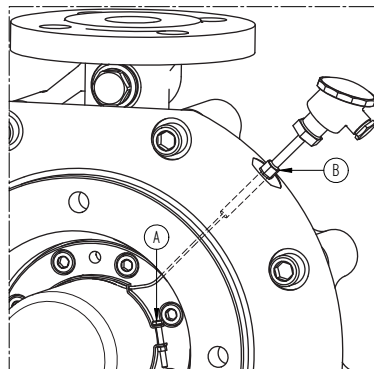

Figure 5: Inside connection of temperature sensor.
- 5 Remove the impeller key (1860).
- 3 If the pump is equipped with a temperature sensor carefully remove the hose clamp by untightening screw A (figure 5). Then loosen B and remove the connection head together with the connection tube, guiding at the same time the temperature sensor from the inside through the hole.
- 14 If the pump is equipped with a temperature sensor, guide the temperature sensor from the outside through the hole and mount the connection head and tube to the intermediate cover. Then guide the temperature sensor through the hole in the hose clamp and mount the hose clamp in the position as shown in figure 5.